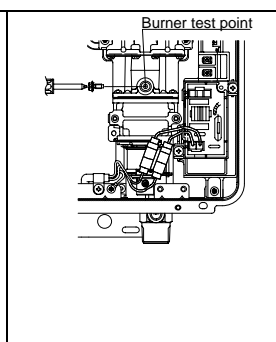

Fig. 2
5. Attach pressure gauge to burner test point, located on the gas control. (Fig. 2).